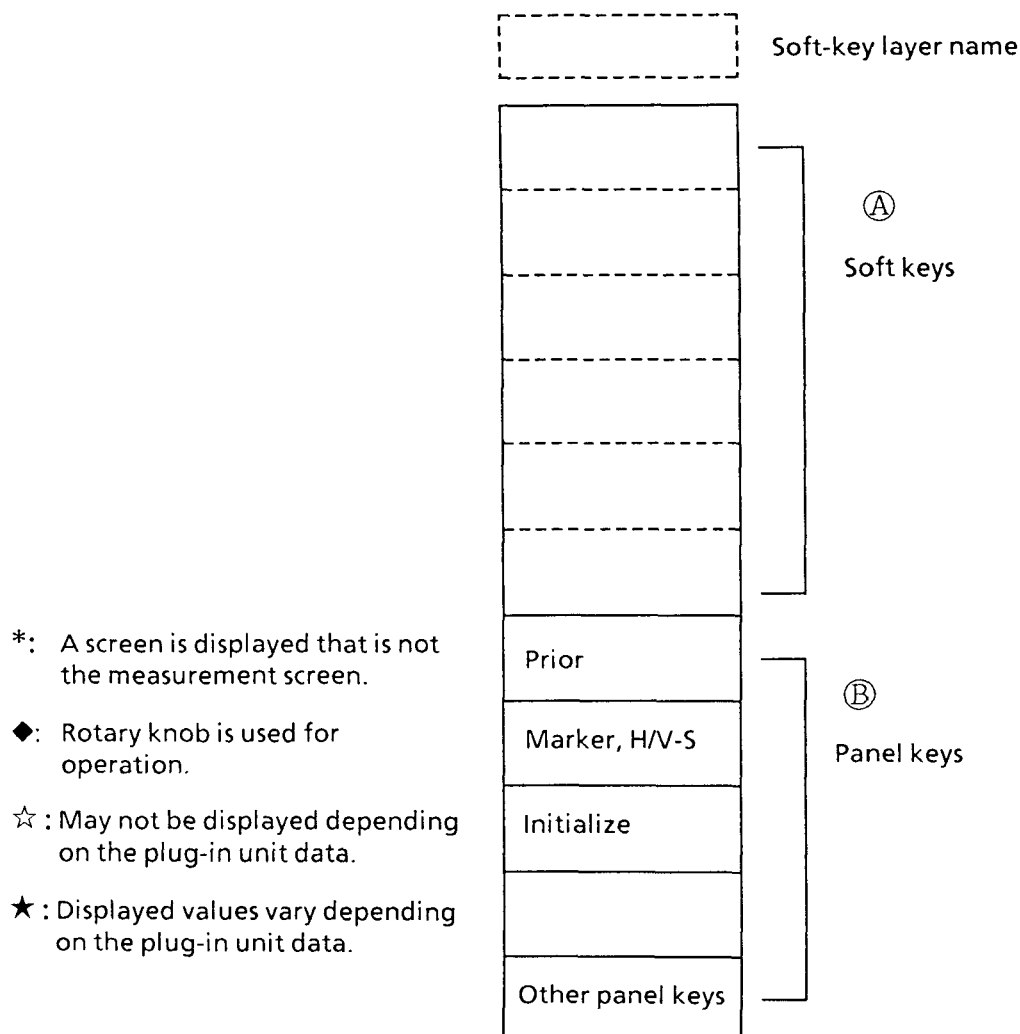

Fig. A-1 Format of Soft-Key Layer Transition Diagrams
The soft-key layer transition diagrams are described using the format shown in Fig. A-1. Layer transitions actuated by pressing such panel keys as [Marker] and [H-Shift] other than soft keys are also indicated. The upper section marked by ① is for soft keys; the lower section marked ② is for other panel keys. Note that the following symbols are used in the layer transition diagrams, but these symbols are actually not displayed on the screen.